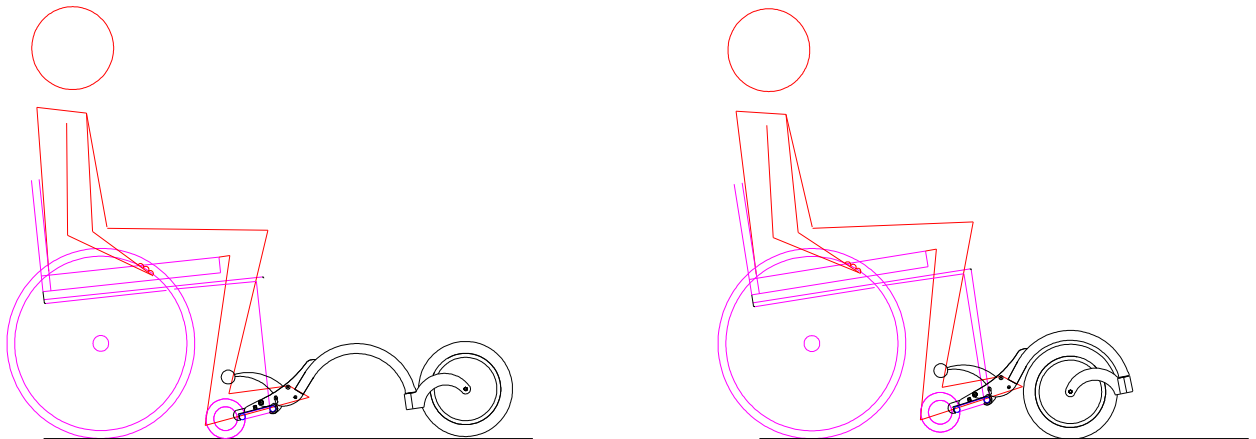

Fig. 3
- Proper position relative to the floor. The FreeWheel™ Wheelchair Attachment is designed to be adjusted so that in the clamped-on tail dragger position the wheel of the FreeWheel is resting on the floor. When you push forward the caster angle built into the system provides the leverage to lift as the wheel rotates from front to back. So, when pushing forward as can be seen in Figure 3, the wheelchair castors are off the floor.